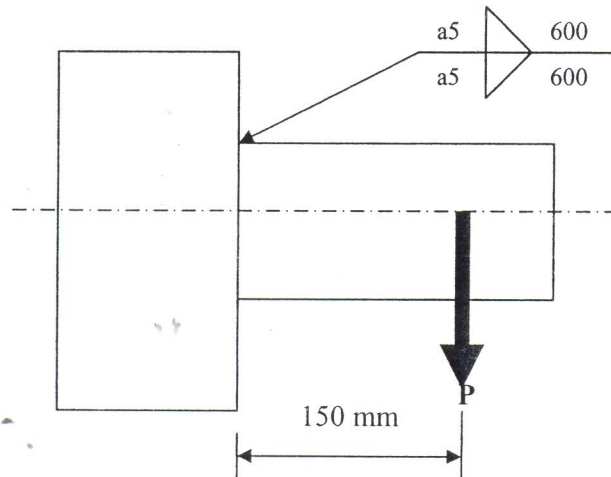

Figure 3
- a) Give three (3) conditions in which the strength of symmetrical loaded fillet welds can be taken as equal to the strength of the plate.
- c) Figure 3 shows welded members were subject to static load. of 500kN. The welding was fillet design on both sides with the welding length is 600mm. Calculate the maximum stress on the weldments.